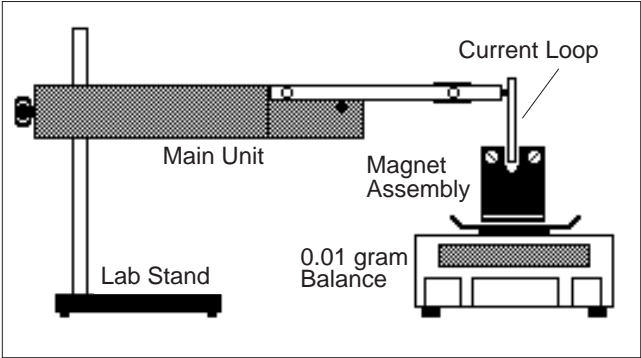

Figure 2.1 Equipment Setup
Set up the apparatus as in Figure 2.1.
- ① Set up the apparatus as shown in Figure 2.1. Use the shortest length current loop.